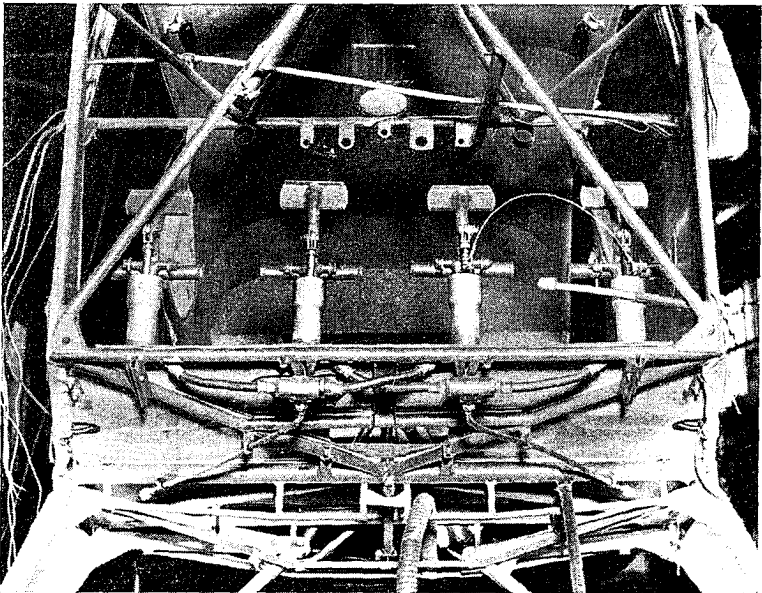

Figure 15
6. Replace bleeder screw; check to see that master cylinders are full, and replace filler plugs. Check brakes for satisfactory operation.—See Figure 15.